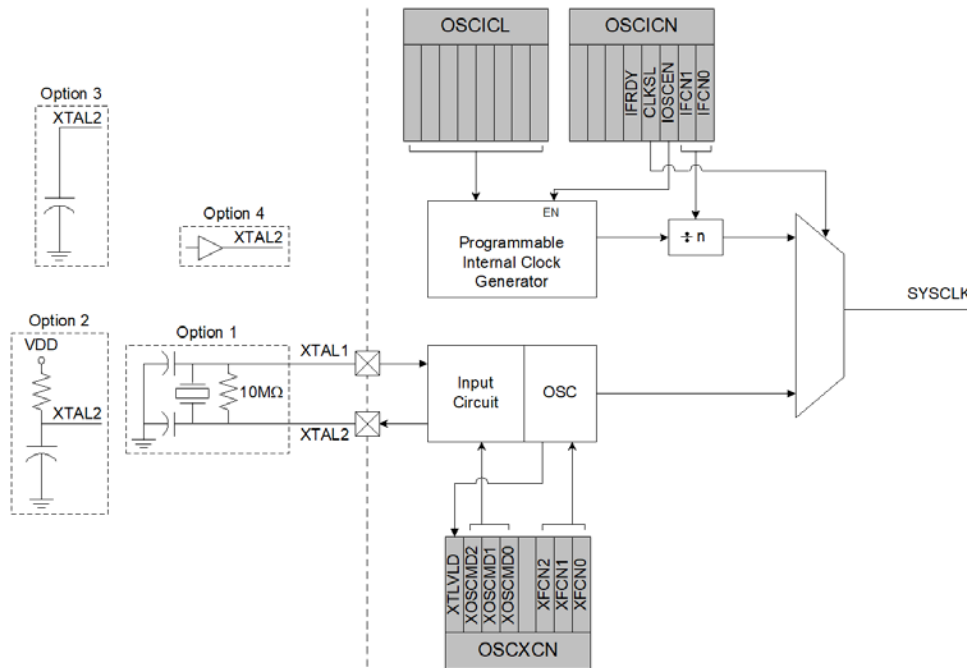

Figure 11.1. Oscillator Diagram
C8051F300/1/2/3/4/5 devices include a programmable internal oscillator and an external oscillator drive circuit. The internal oscillator can be enabled/disabled and calibrated using the OSCICL and OSCICN registers, as shown in Figure 11.1. The system clock can be sourced by the external oscillator circuit, the internal oscillator, or a scaled version of the internal oscillator. The internal oscillator's electrical specifications are given in Table 11.1 on page 99.
The external oscillator circuit may drive an external crystal, ceramic resonator, capacitor, or RC network. A CMOS clock may also provide a clock input. For a crystal or ceramic resonator configuration, the crystal/resonator must be wired across the XTAL1 and XTAL2 pins as shown in Option 1 of Figure 11.1. A 10 MΩ resistor also must be wired across the XTAL2 and XTAL1 pins for the crystal/resonator configuration. In RC, capacitor, or CMOS clock configuration, the clock source should be wired to the XTAL2 pin as shown in Option 2, 3, or 4 of Figure 11.1. The type of external oscillator must be selected in the OSCXCN register, and the frequency control bits (XFCN) must be selected appropriately (see SFR Definition 11.3).
**CRYSTAL MODE** (Circuit from Figure 11.1, Option 1; XOSCND = 11x)
**RC MODE** (Circuit from Figure 11.1, Option 2; XOSCND = 10x)
**C MODE** (Circuit from Figure 11.1, Option 3; XOSCND = 10x)
If a crystal or ceramic resonator is used as an external oscillator source for the MCU, the circuit should be configured as shown in Figure 11.1, Option 1. The External Oscillator Frequency Control value (XFCN) should be chosen from the Crystal column of the table in SFR Definition 11.3 (OSCXCN register). For example, an 11.0592 MHz crystal requires an XFCN setting of 111b.